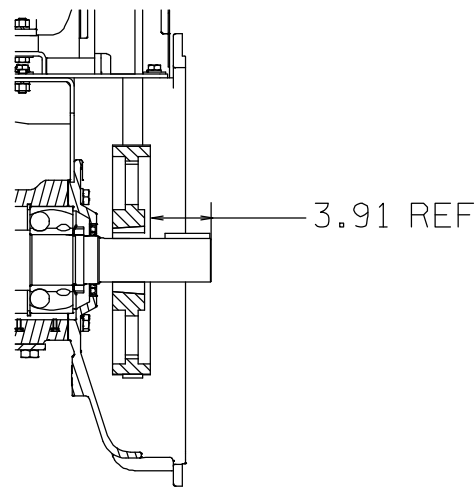

Figure 7. Drive Sprocket Positioning
Install the shaft key (26) in the shaft keyway. Slide the bushing and sprocket (26 and 28, Figure 1) onto the shaft to the dimension shown in Figure 7. Install the bushing setscrews and tighten the setscrews in an alternating sequence to secure the sprocket to the shaft. Torque the setscrews to 66.7 ft. lbs. (800 in. lbs. or 9,2 m. kg.).